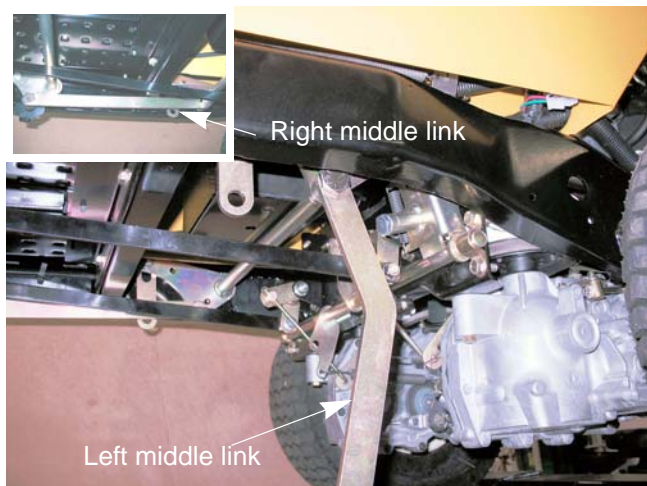

Figure 8.30
5. Remove both middle links using a 15/16" wrench and a 9/16" wrench. See Figure 8.30.